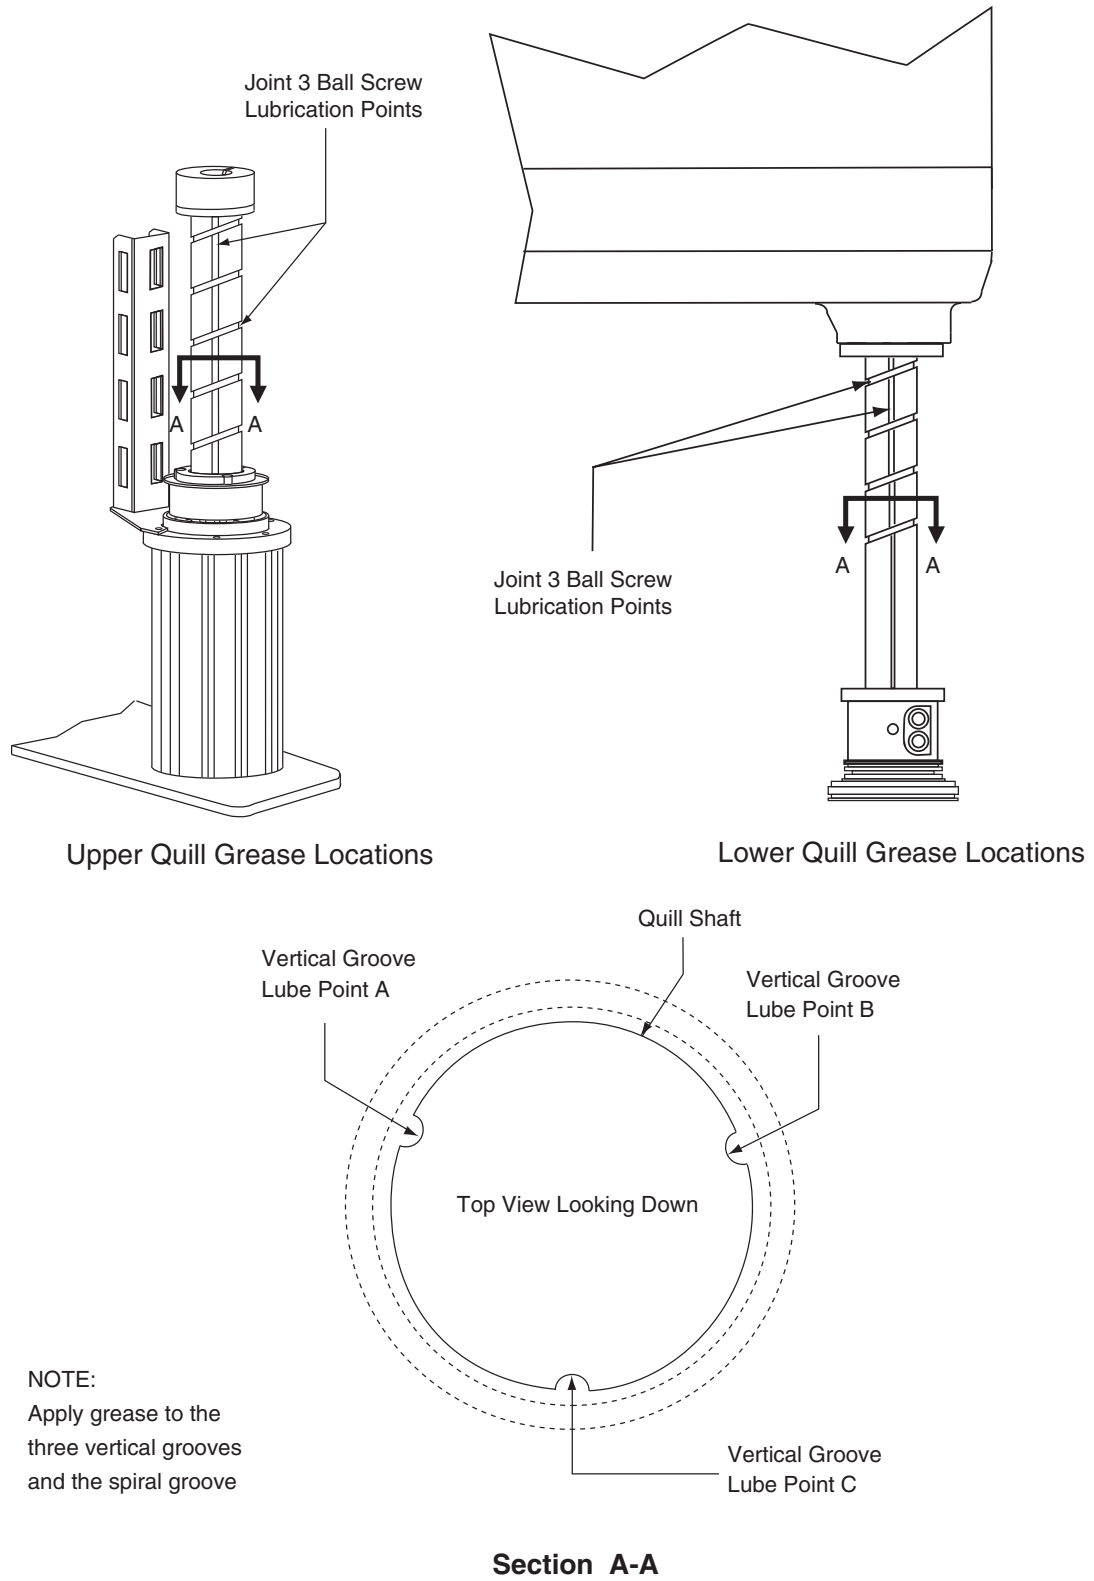

Figure 5-1. Lubrication of Joint 3 Quill
5. Using a syringe, apply a small bead of grease to the Joint 3 ball screw grooves (see Figure 5-1).